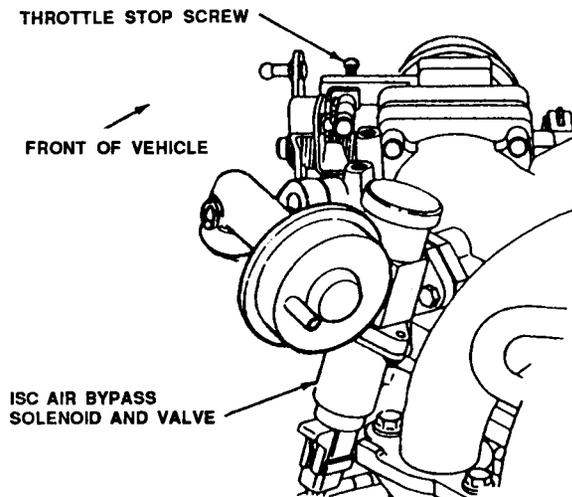

Figure F050-10
4. Turn the throttle stop screw (Figure F050-10), to set idle to 750 \pm 25 rpm for all models.
6. Place the transmission in drive (AT) or neutral (MT).
7. Turn the throttle stop screw (Figure F050-10 on page F159), to set idle speed to: